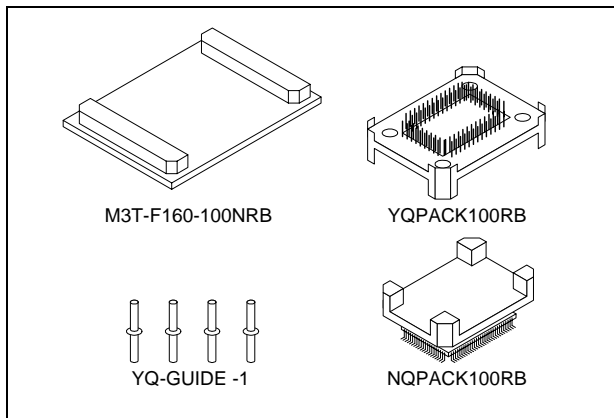

Figure 1 Package components of the M3T-F160-100NRB
2. Package Components (See Figure 1)